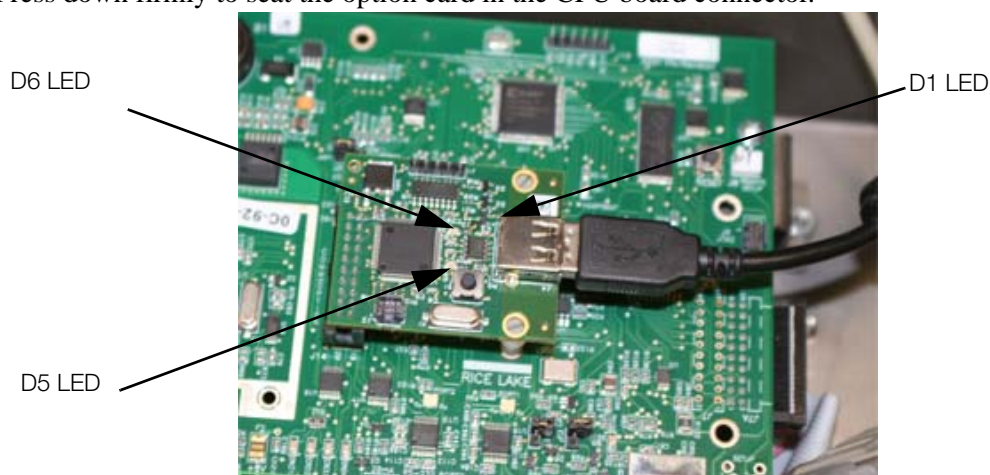

Figure 2-13. Installing the USB Option Card
5. Several signal LEDs are located on the USB option board as shown in Figure 2-13.